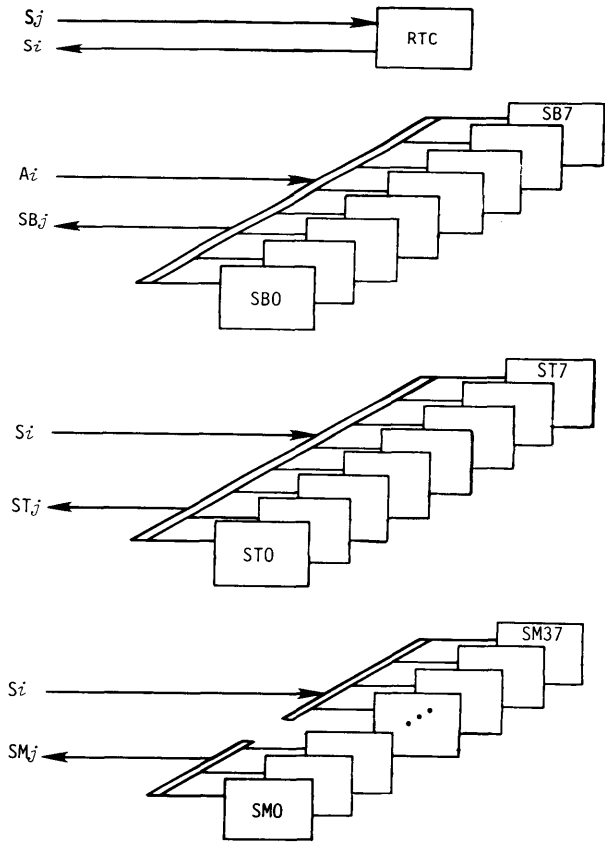

Figure 2-4. Shared Registers and Real-time Clock
The inter-CPU communication section of the mainframe contains special hardware for data storage, control, and for a Real-time Clock (RTC). The RTC, Shared Address (SB), Shared Scalar (ST), and Semaphore (SM) registers are available for use by the CPU. These registers, with their sources and destinations, are shown in figure 2-4 and described in the following paragraphs.